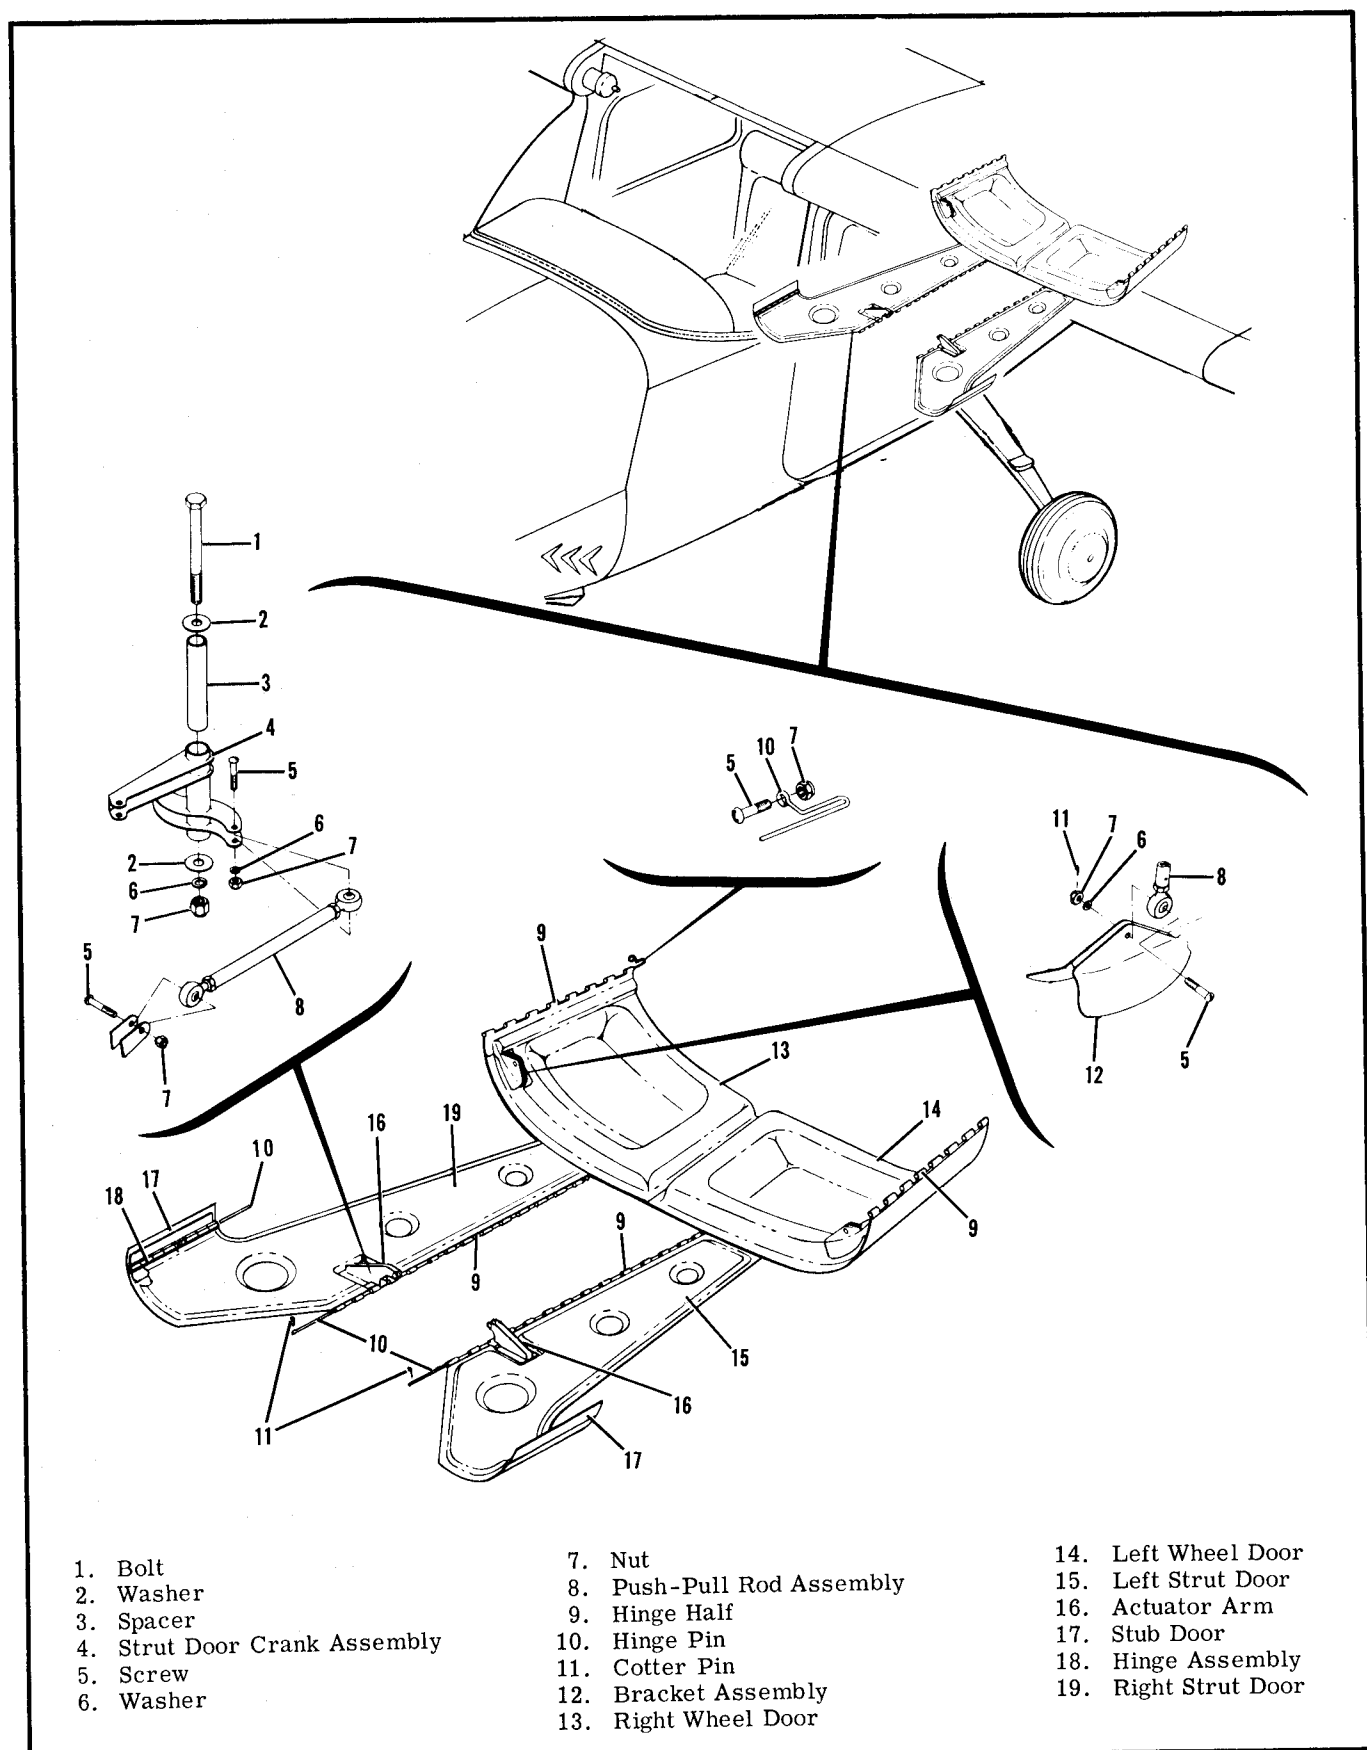

Figure 5-13. Main Landing Gear Doors
5-61. Main gear doors, shown in figure 5-13, open for main gear retraction or extension and return to closed position at the completion of either cycle. The strut doors are opened and closed by a double-acting hydraulic actuator. The wheel doors are actuated by a double-actuating hydraulic actuator for each door. Each door actuator contains an internal locking device to hold the doors in the closed position when the actuator is retracted. This lock is released on first flow of hydraulic pressure to the door system.
- g. Remove lock ring and bearing (figure 5-13) from lower strut.